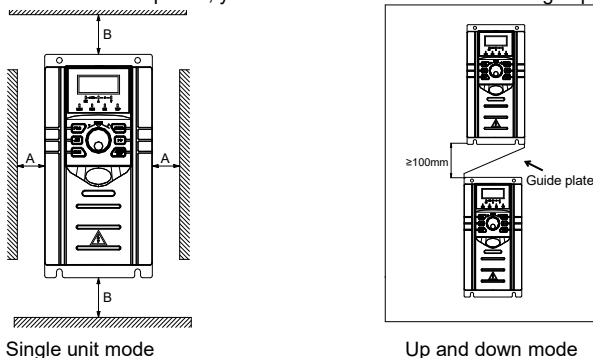

Figure 3-1 CDE500 installation diagram
- 3) For occasions which have upper and lower installation, please refer to Figure 3-1 and install the insulation guidance plate.